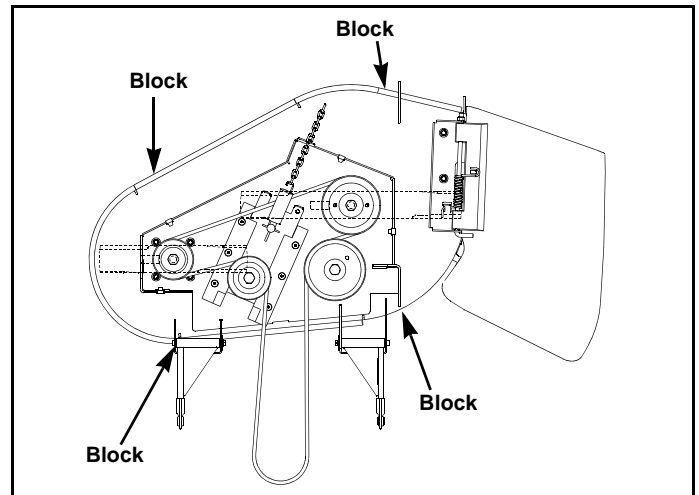

Figure 6-3
3. Place 3” high deck support blocks (two stacked 2” x 4” blocks can be used to create a 3” [7.62cm] high support) at the four corners of the deck as shown. **NOTE:** Back of deck will automatically be set 1/4” (6.35mm) higher. Figure 6-3